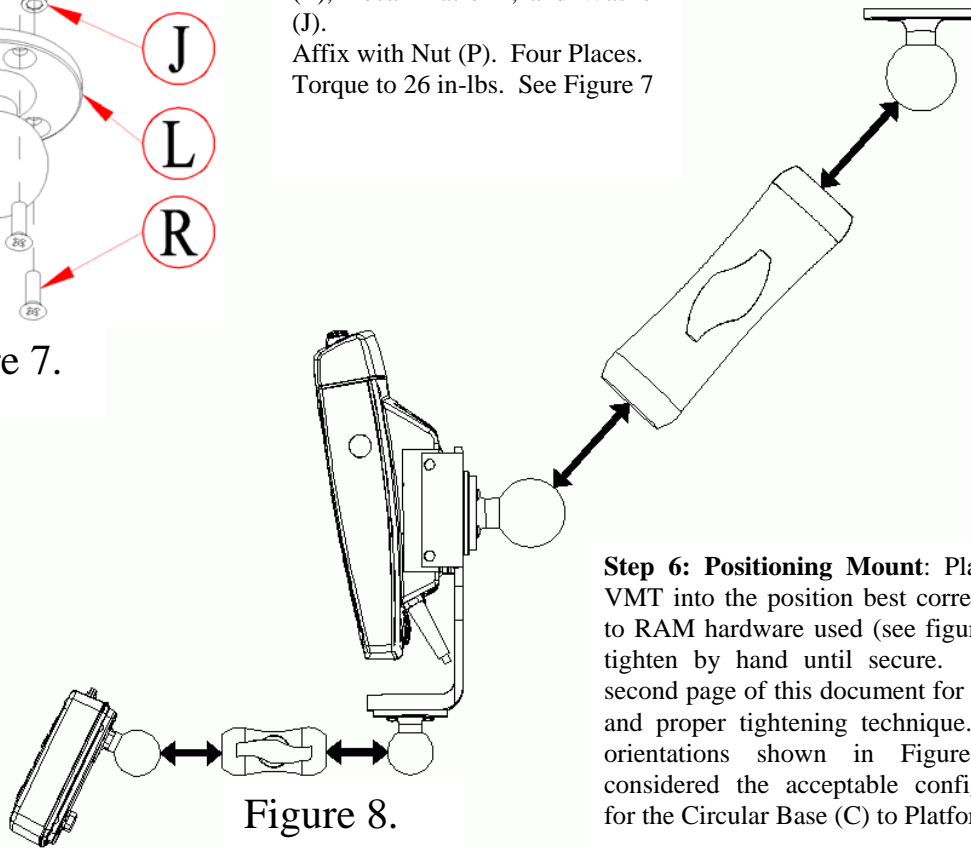
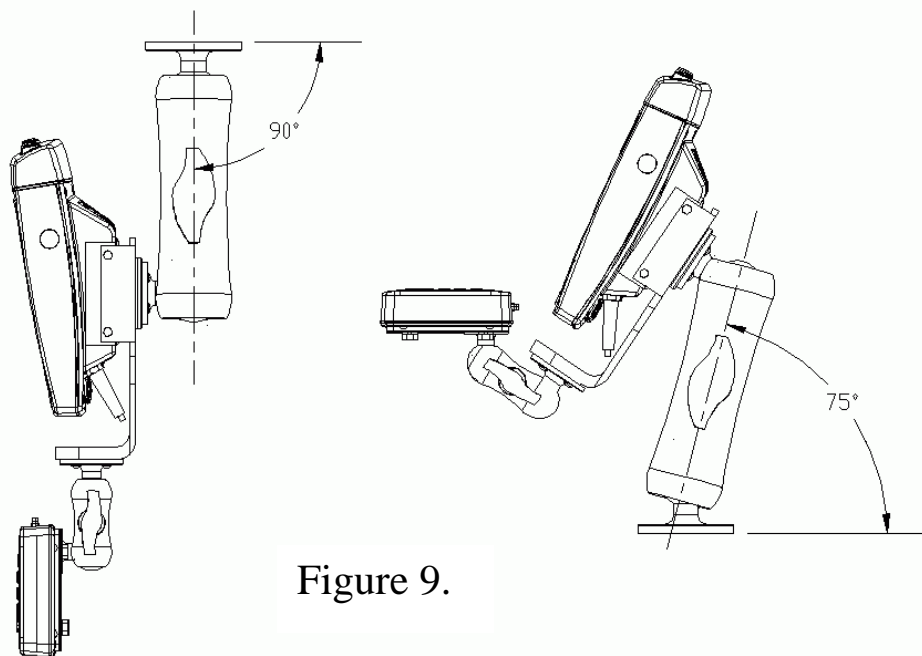

Figure 8.
Figure 9.
Step 6: Positioning Mount: Place 8530 VMT into the position best corresponding to RAM hardware used (see figure 8) and tighten by hand until secure. Refer to second page of this document for warnings and proper tightening technique. Mount orientations shown in Figure 9 are considered the acceptable configurations for the Circular Base (C) to Platform.